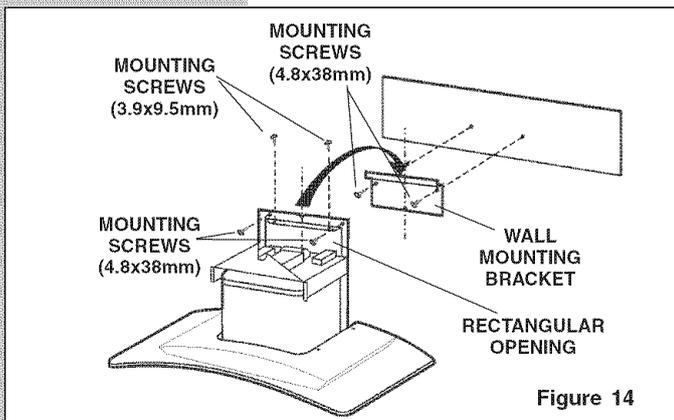

Figure 14
- 2 Align the rectangular opening on the back of the hood with the wall-mounting bracket. Gently lower the hood until it securely engages the bracket. Figure 14.
- 3 Level the hood with (2) 3.9x9.5mm mounting screws and secure with (2) 4.8x38mm mounting screws. Use drywall anchors provided if wall studs or framing are not available. Figure 14.